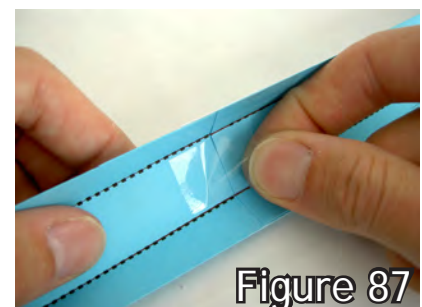

Figure 87
3. Use one piece of tape on the floor of the track to add extra strength and smoothness. (fig. 87)